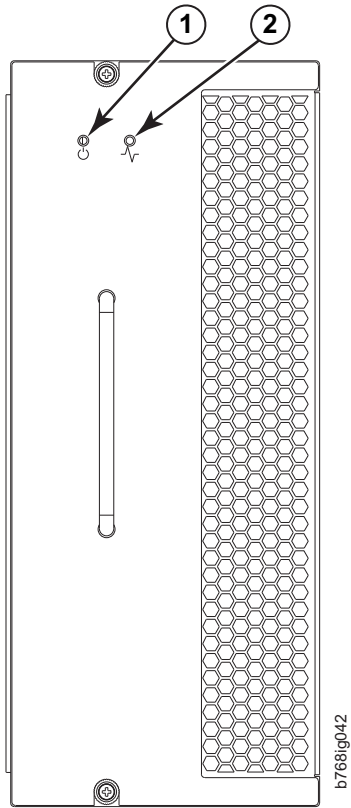

Figure 25. Blower assembly LEDs
1. Check the LED indicators on the blower assembly (see Figure 25 on page 62). The LED patterns may temporarily change during POST and other diagnostic tests; for information about how to interpret the LED patterns, see Table 10 on page 62.